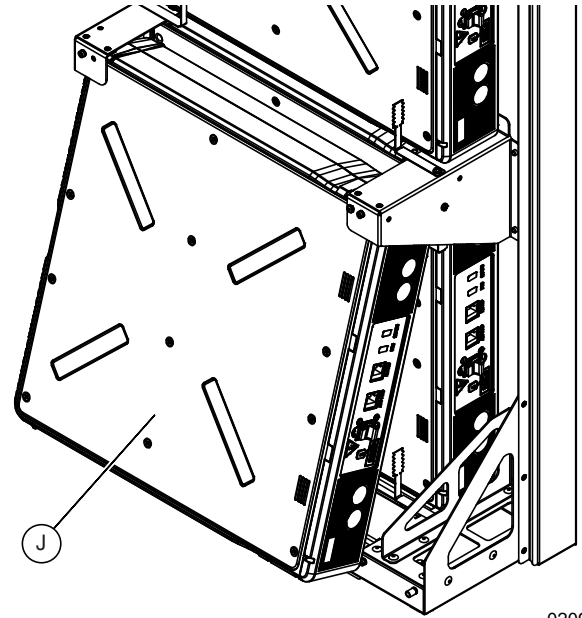

Figure 4-16. Installing Front Battery Modules
See Figure 4-16. Install front battery modules (J) using the same procedure used for the rear modules.